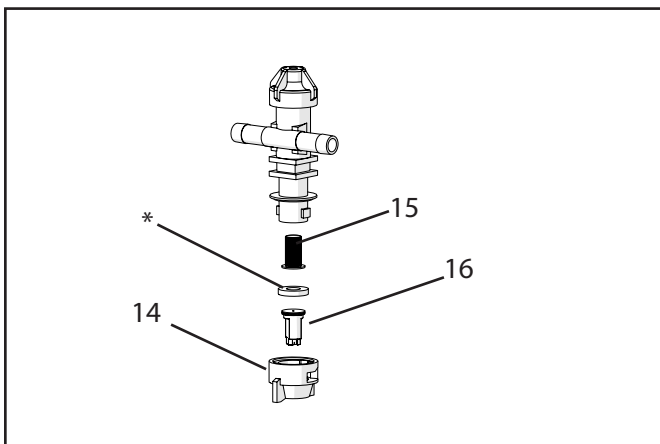

Figure 6: Nozzle assembly
3. Tip strainers should be taken out and rinsed on a regular basis. Tip strainers are the small screens located behind each spray nozzle on the boom (Figure 6, page 6).